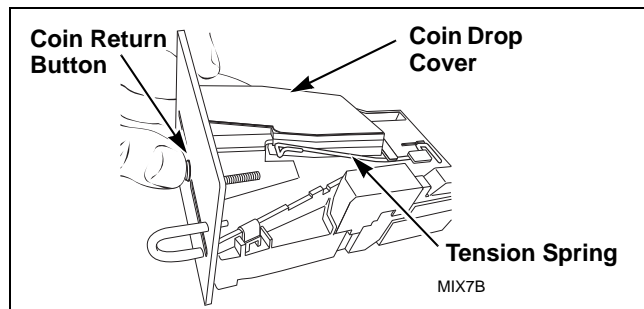
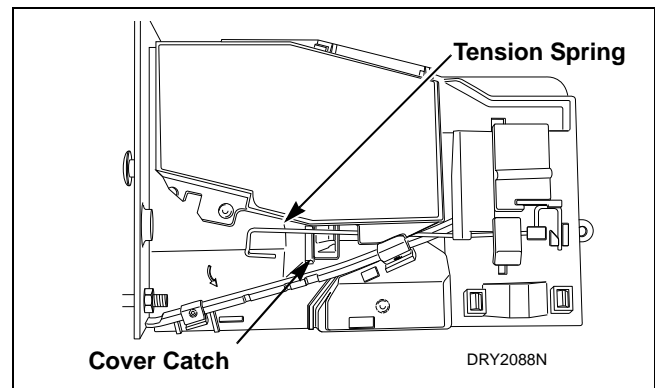

Figure 2
Figure 4
- (1) Clean coin drop. Refer to *Paragraph 69*.
- (2) On electronic coin drops with an old-style tension spring (shown in *Figure 2* and *Figure 4*), test and replace tension spring using the following instructions.
- (1) Push coin return button to open and close coin drop cover to clear possible coin jams. Refer to *Figure 2*.
- (1) Move tension spring downward until cover catch is free. Refer to *Figure 4*.
Refer to *Figure 4*.